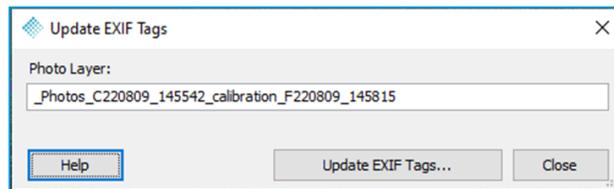

Figure 96 - Update EXIF Tags dialog
- 20. Select **Update EXIF Tags** on the Sensor tab (Figure 95) to open the Update EXIF tags dialog (Figure 96).